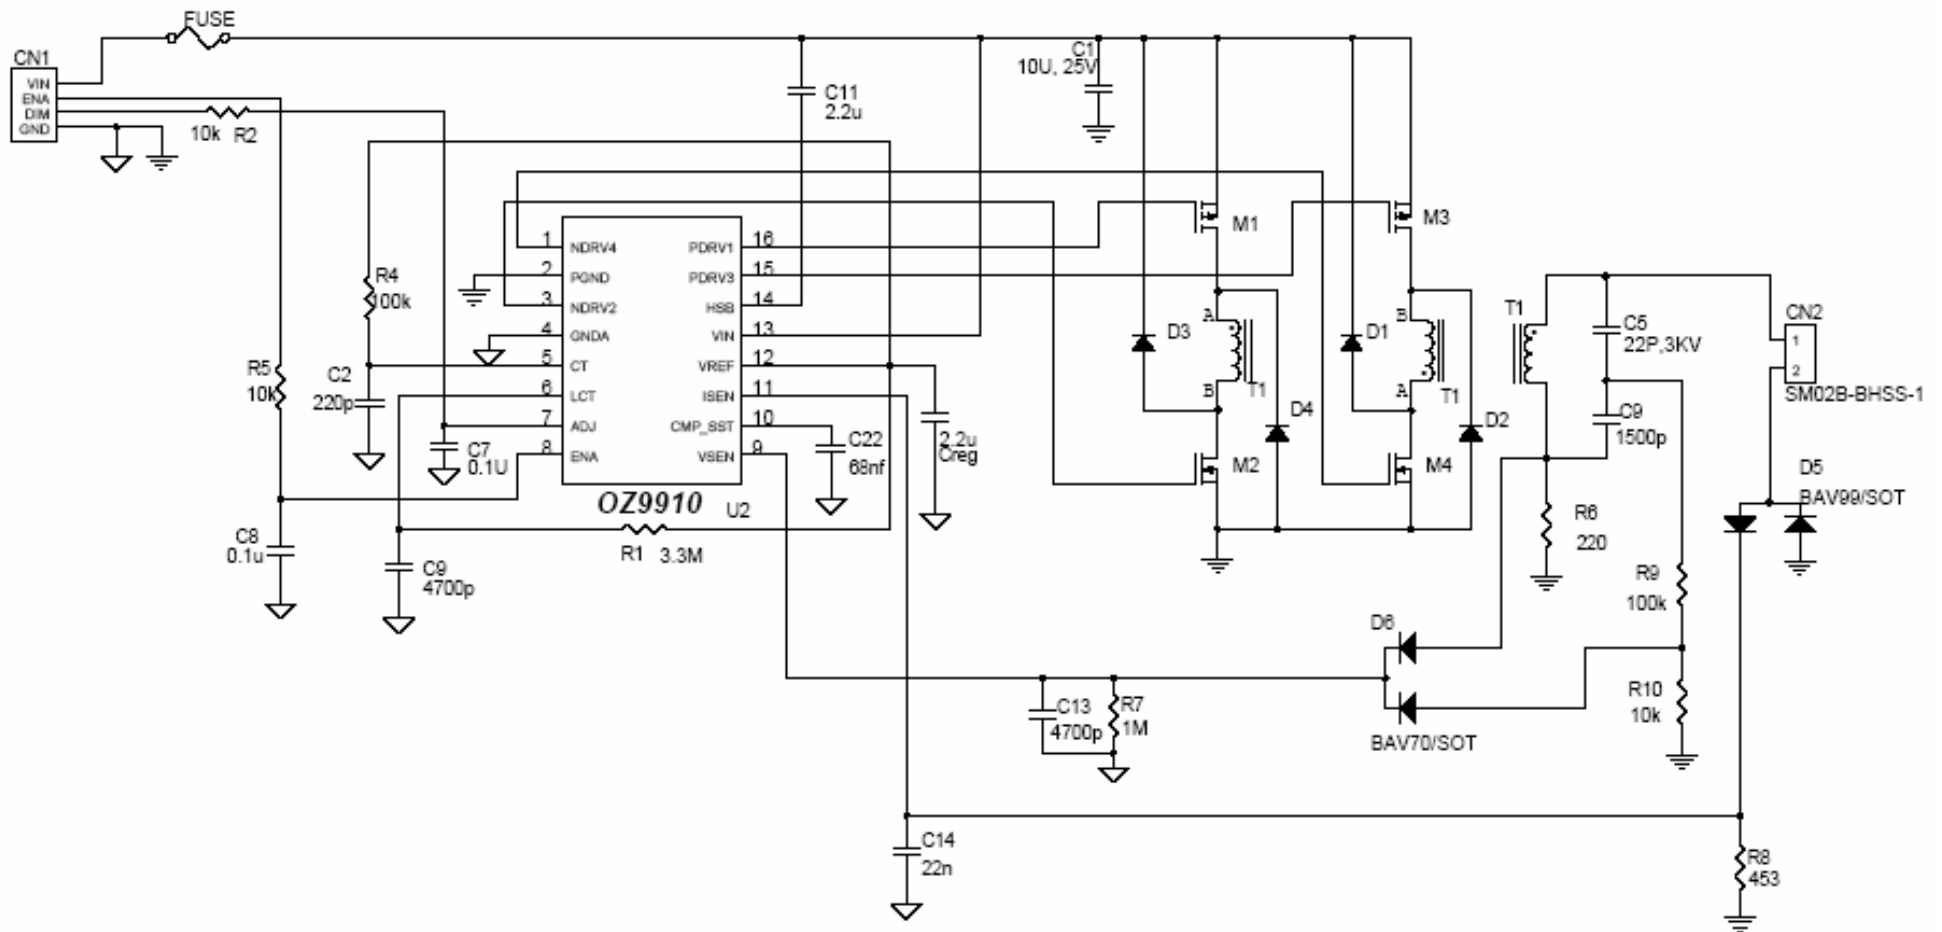

Figure 2. Application Circuit for CCFL
Referring to the schematics shown in Figures 2 and 3 on pages 10 and 11 the OZ9910 drives a zero-voltage switching (ZVS), dual forward power stage where the transformer couples the energy from the power source to the secondary load. In both applications, the voltage and the current can be used as the feedback control signals to regulate the outputs. In CCFL applications, Figure 2, the current flowing through the CCFL is sensed and regulated, through sense resistor R8, then compared with a reference voltage via a current amplifier, resulting in PWM drive outputs to the dual forward converter switches. Switches M1, M2, M3, M4 are configured such that the switch in each pair, M1/M4 and M2/M3, are turned-on complementarily. The amount of time where switches M1/M2 and M3/M4 conduct, determine the amount of energy delivered to the load. A voltage loop is established to monitor the output voltage such that a required turn-on voltage is achieved. A soft-start circuit ensures a gradual increase in the output power to minimize stress to the other components. The capacitor at CMP_SST (pin 10), determines the rate of rise of the voltage on CMP_SST pin, where the voltage at this pin determines the on-time duration of switches M1/M2 and M3/M4.
Referring to Figure 2, in the case of an open-lamp condition emulating an aged lamp, the OZ9910 provides an optional, user-defined, turn-on frequency. The turn-on frequency is implemented through capacitor C2 connected to CT pin. The striking (turn-on) time is determined by capacitor C9 connected to LCT (pin 6). The ignition voltage (open-lamp voltage) is regulated through the voltage feedback loop. This highly integrated circuit (IC) provides a cost effective yet high-degree of design flexibility.